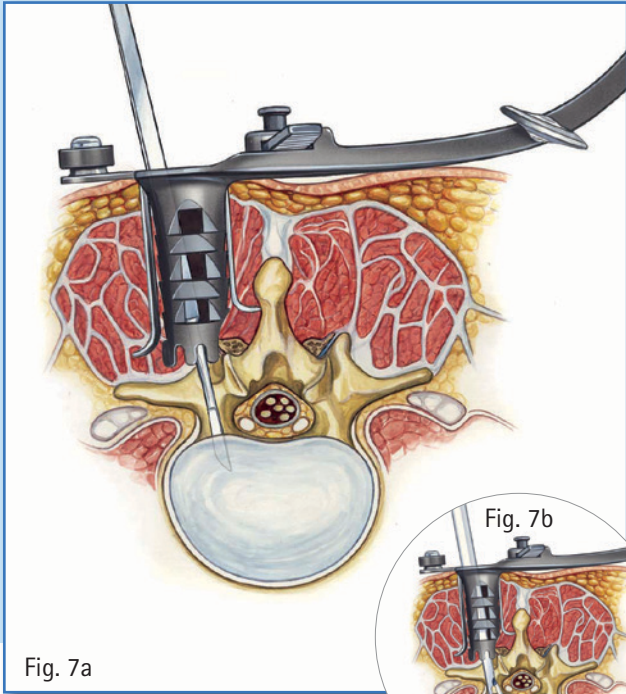

Fig. 7a
7. Opening of the disc and removal of disc material (Fig. 7a-7b)